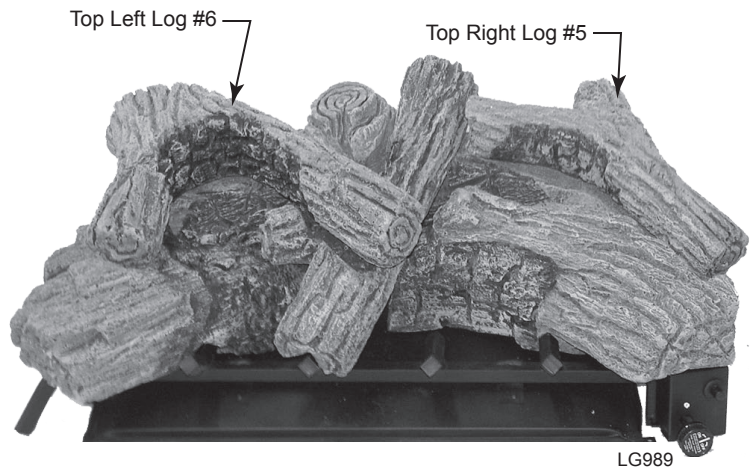

Figure 28
5. Rest top right log #5 on log #3. *Figure 28*
6. Align top left log #6 with notches on log #2 and log #4. *Figure 28*